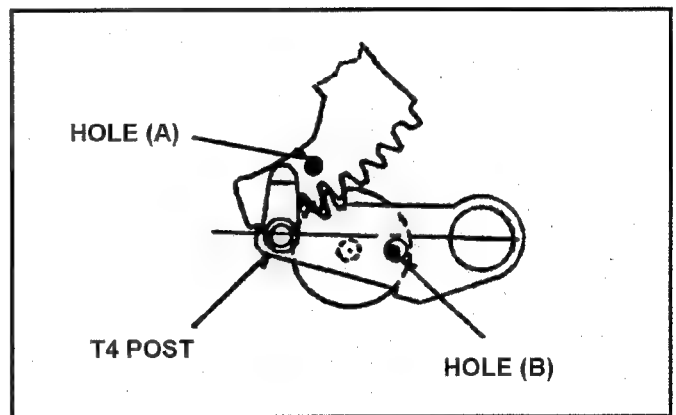

Fig. 10-17-1 Phase of T4 Post
1. Confirm that the hole (B) of T4 Connector Gear was matched to hole of T4 Post as shown in figure 10-17-1.
2. Confirm the relation between portion (C) of T4 Connector Gear and **hole (A)**, as shown in Figure 10-17-1.